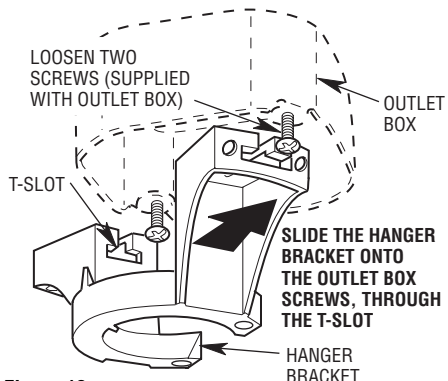

Figure 12
- 1. Position the hanger bracket on the outlet box so that the T-slots in the hanger bracket are aligned with the outlet box screws (Figure 12).